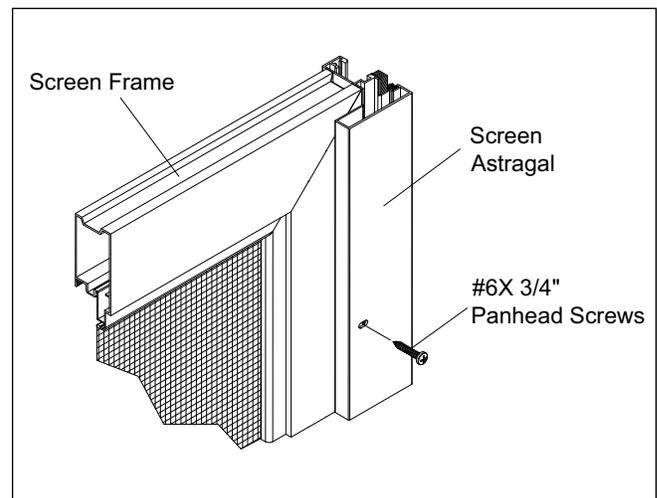

Figure 5
3. Fasten the astragal to the screen panel with the #6 x 3/4" pan head screws provided. **DO NOT OVERTIGHTEN THE SCREWS, HAND TIGHTEN ONLY.** See figure 5.